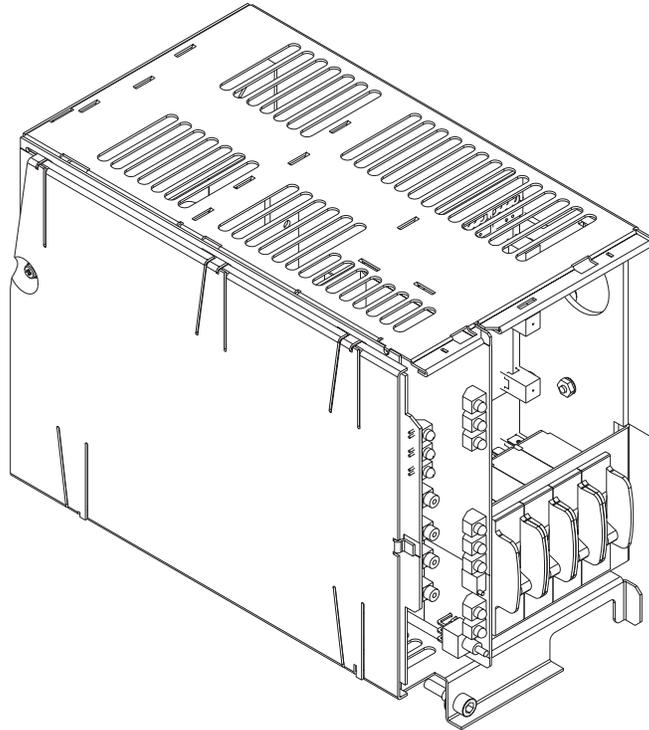

Figure 5-2: BPS with Faceplate Removed
5. Insert the ACU (EBM1) into the slot in the BPS. (See Figure 5-2.)